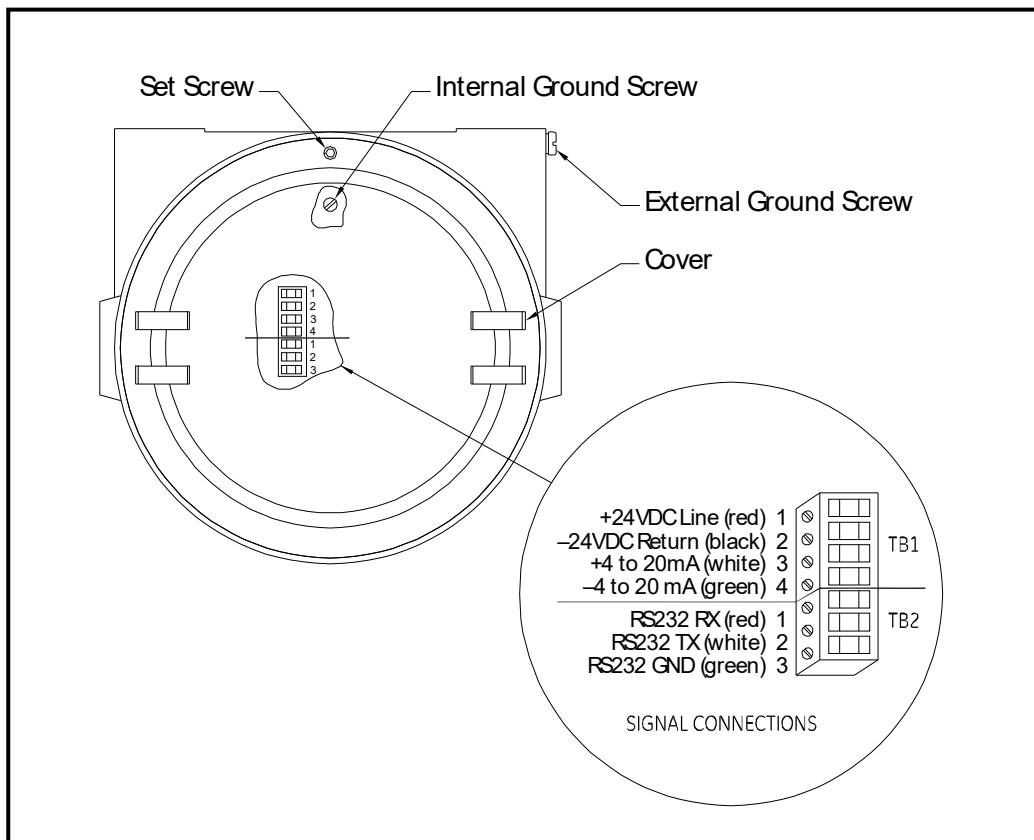

Figure 4: Wiring Connections to the XMO2 TB1/TB2 Block
4. Unplug terminal block TB1/TB2 on the XMO2 transmitter PCB (PCB) by carefully pulling it directly up without bending the pins attached to the PCB. (See Figure 4 on page 8.)